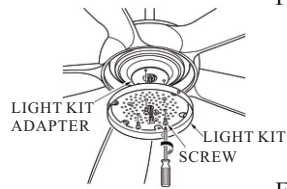

FIG.13
- 3.Gently pull the wires through light kit.Align the 3 round holes on light kit with 3 holes on light kit adapter.(see Fig.13)